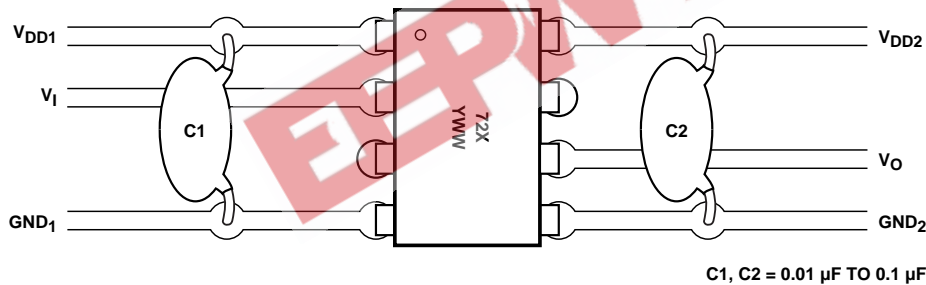

Figure 11. Recommended printed circuit board layout.
0.1 μF . For each capacitor, the total lead length between both ends of the capacitor and the power-supply pins should not exceed 20 mm. Figure 11 illustrates the recommended printed circuit board layout for the HPCL-772X/072X.